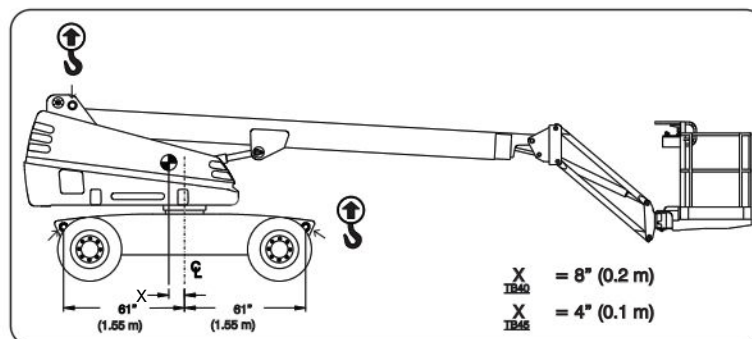

Figure 3-8. Lifting Points
When lifting the MEWP, lifting devices must be attached to designated lift points only (refer to Figure 3-8).
4. Properly adjust rigging to ensure MEWP remains level during lifting. See Center of gravity location (Figure 3-8).